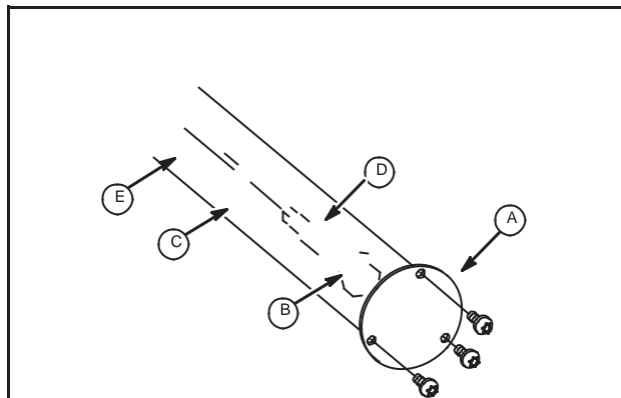

Fig. 10 – Remove Oil Pump
1. Remove the following parts, Fig. 10.